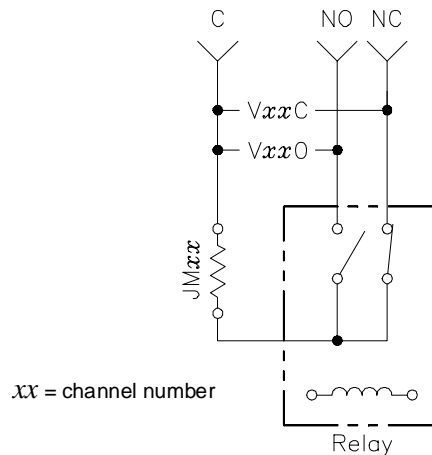

Figure 1-10. Adding Relay and Circuit Protection
Space has been made available on the HP E1463A Form C module for adding relay and circuit protection. Relay protection can be added by placing a protective device across the specified pads. This is done by adding metal oxide varistors (MOVs) between the common (C) and normally open (NO) or normally closed (NC) terminals. Now as the voltage goes up, the varistor draws current to protect the relay. Figure 1-10 shows the locations where these protective devices can be added.